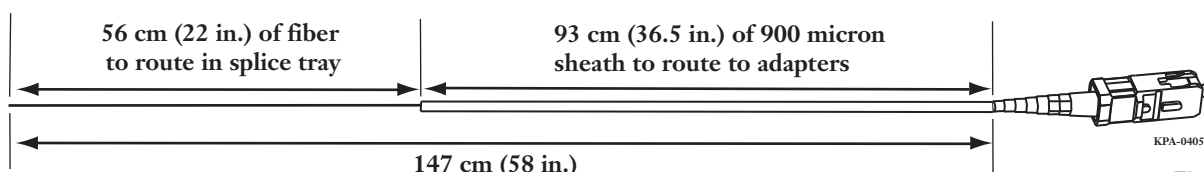

Figure 25
- Step 2:** Use the Buffer Stripping Tool (p/n 3206001-01) to remove the jacket from the pigtail according to the instructions provided with the tool (Figure 25).